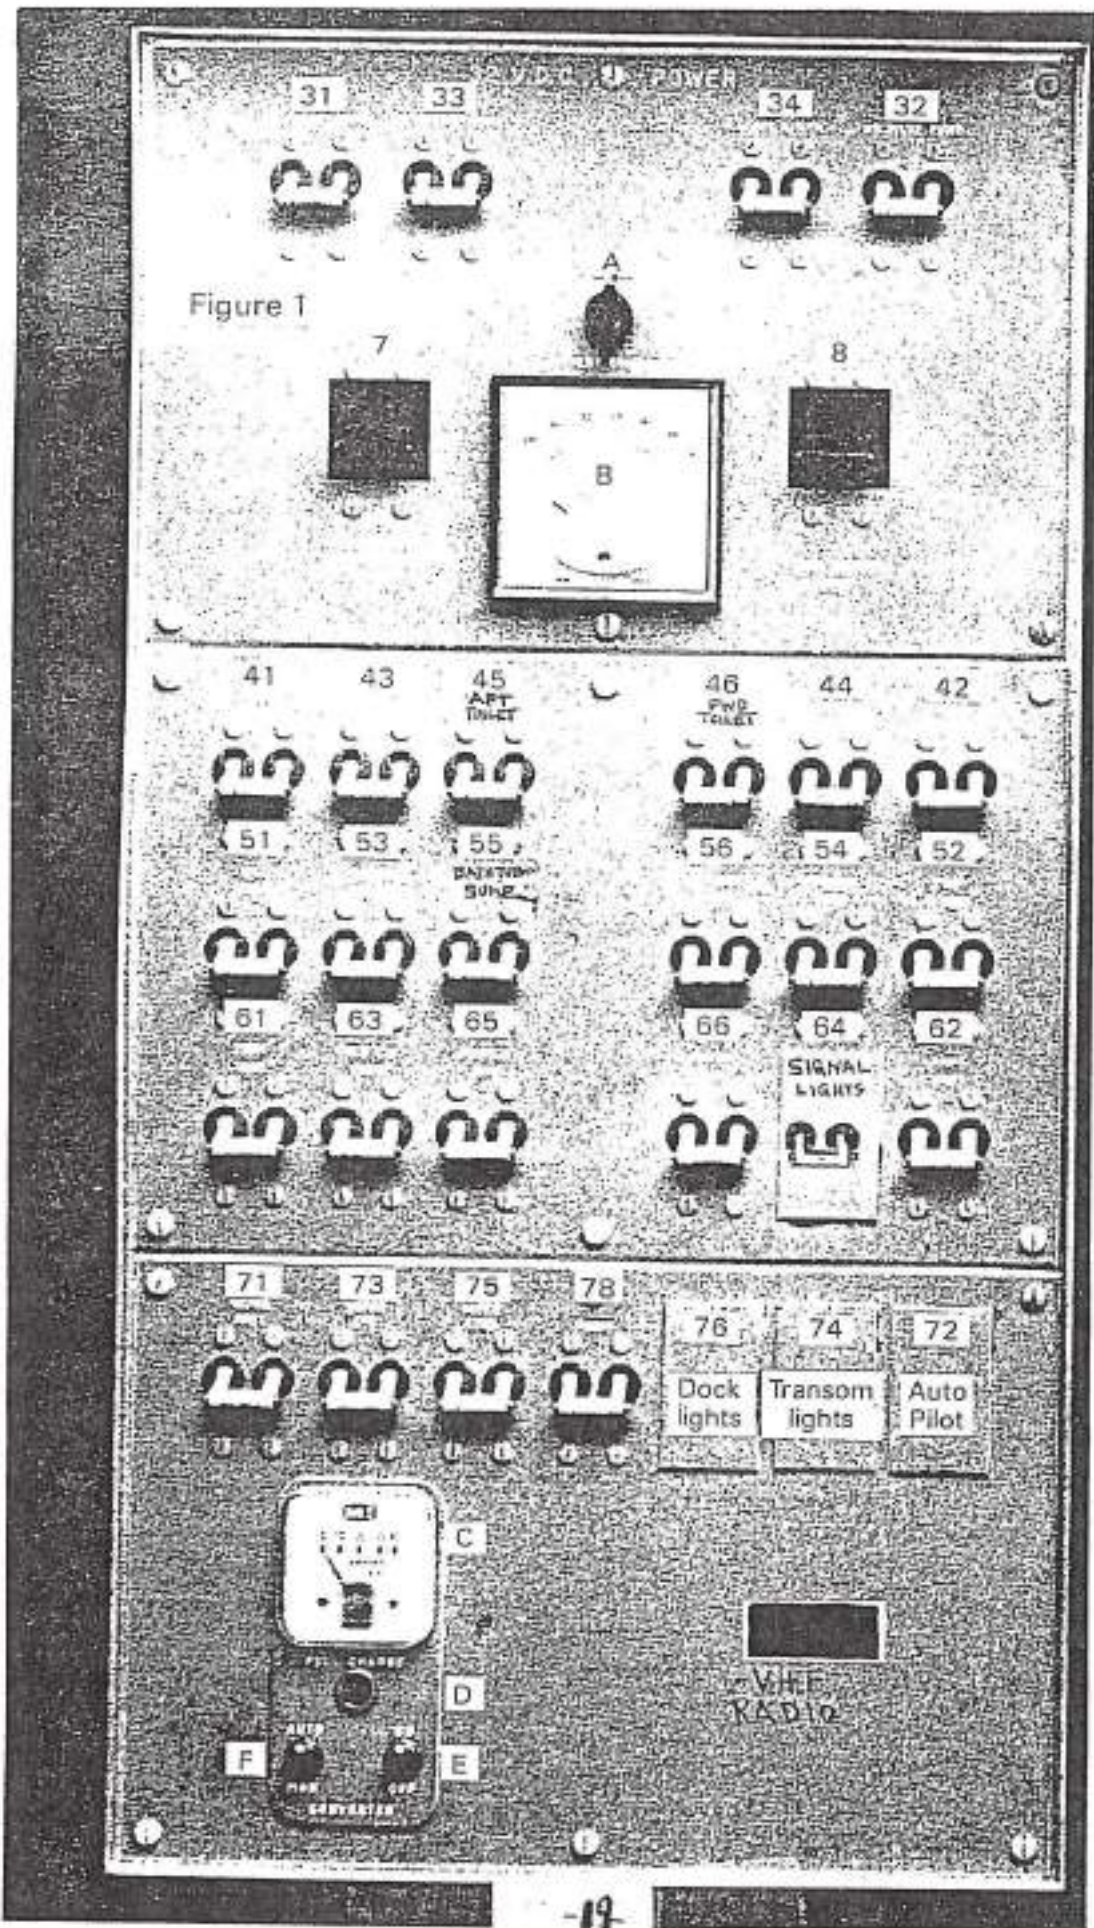
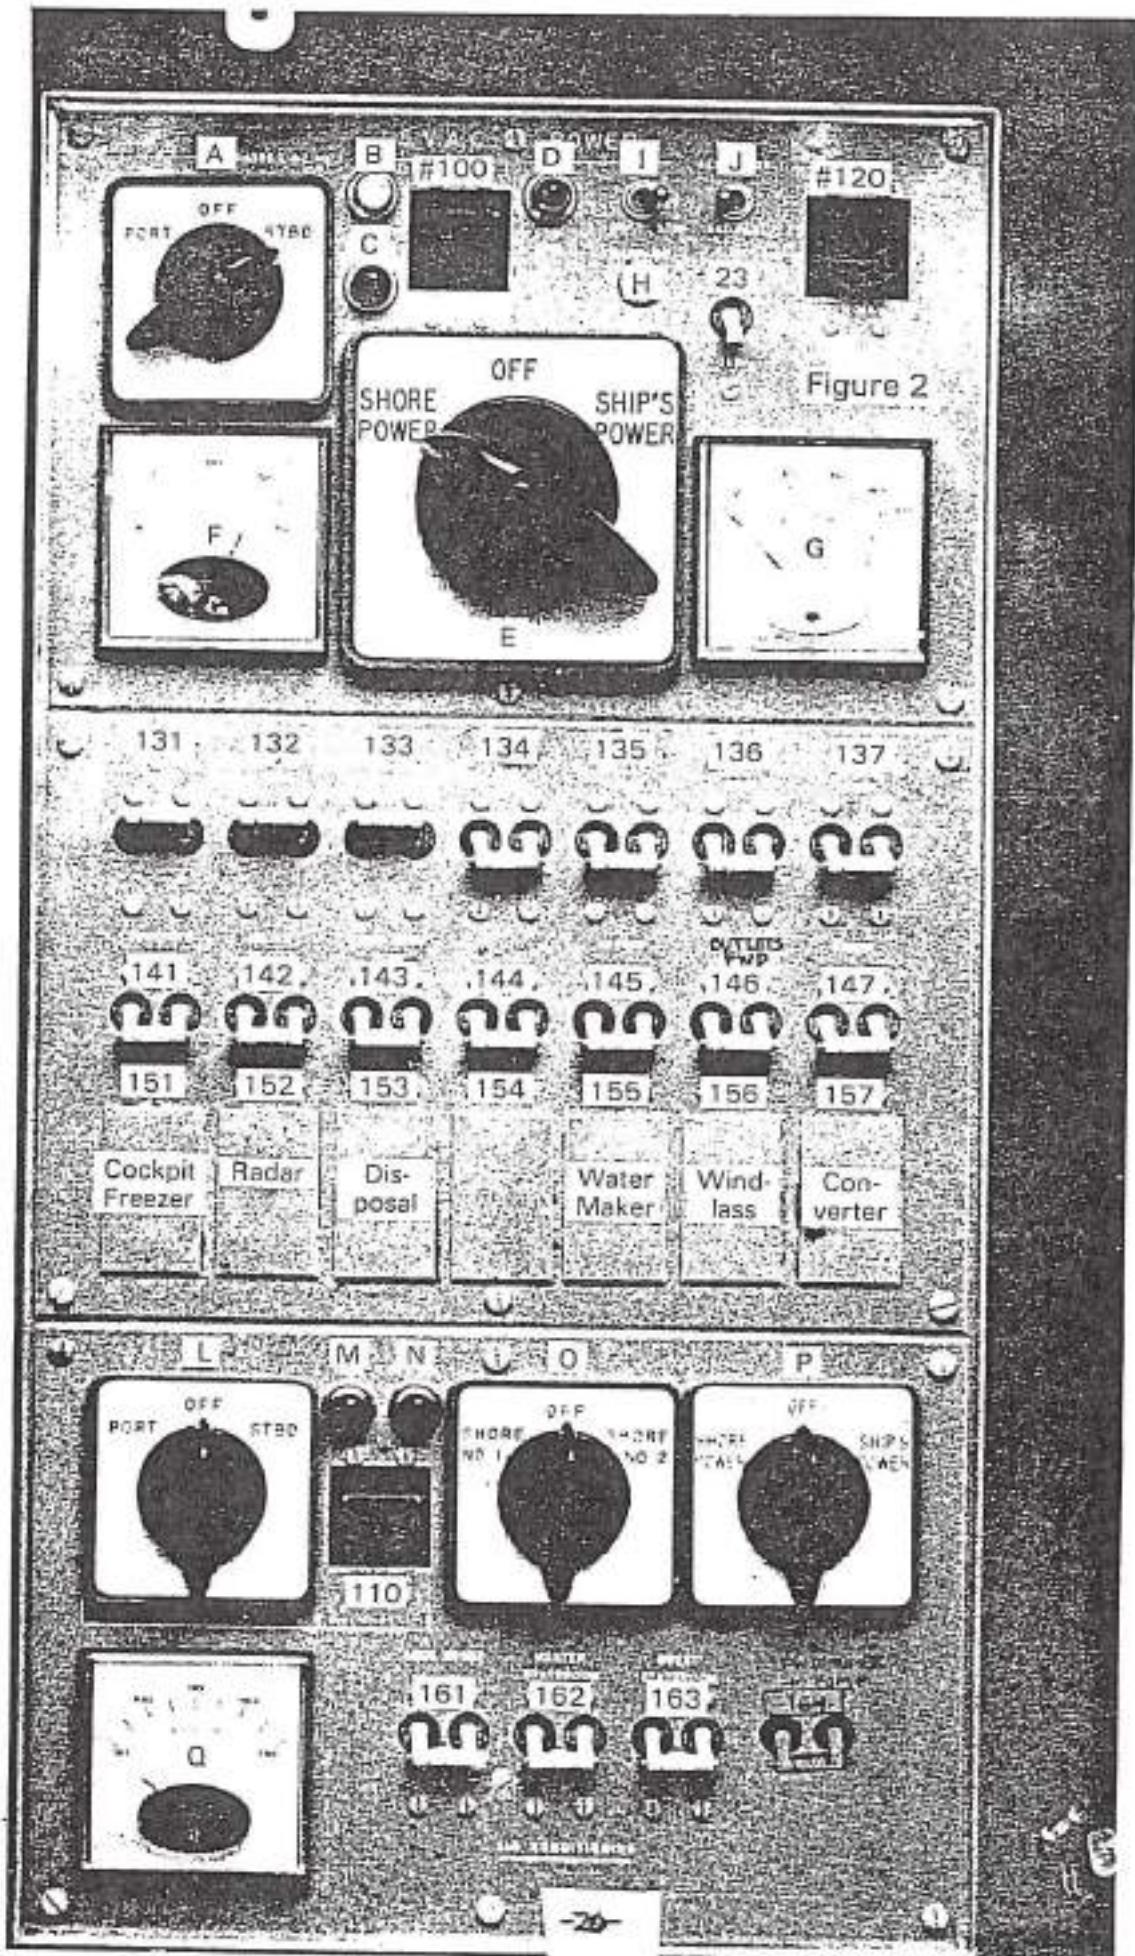

Figure 1
Figure 2
The Electrical Distribution Panel is the heart of your DC and AC systems. On the photographs, Figure 1 and Figure 2, we have super-imposed letters (A, B, C etc.) to help you identify each item as you read through the instructions that follow. Also, each circuit breaker is identified with the same number (7, 31, 100, etc.) that is used throughout the instructions, diagrams and circuit markings.
Blank covers are used to conceal the holes and engraved names for unused optional circuits. Check Figure 1 on 32 V.D.C. Panel.
- a. Turn switch (E) to "on" position
- b. Turn switch (F) to "auto" position
- d. The 115 V.A.C. power must be available and the Converter Circuit Breaker(s) Figure 2 #141 (& 157) must be "on".
- e. The Full Charge Indicator (Figure 1-D) will light when batteries are fully charged. The converter will then automatically shut itself off completely.
The 115 VAC Panel (Figure 2) is simple and logical once you have studied the description that follows.
The 115 V.A.C. Panel, Figure 2, has a pair of polarity lights for each
The remote controls for the generator are located in the top section of the 115 V.A.C. Panel, Figure 2.